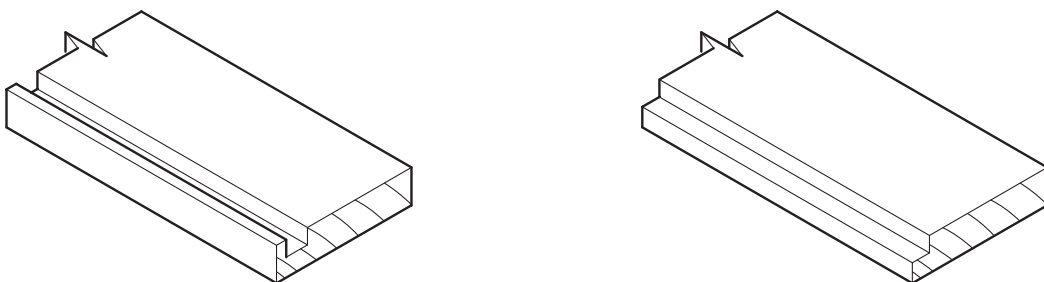

Fig. 9
- 9 Fig. 9 shows two features cut into wood.